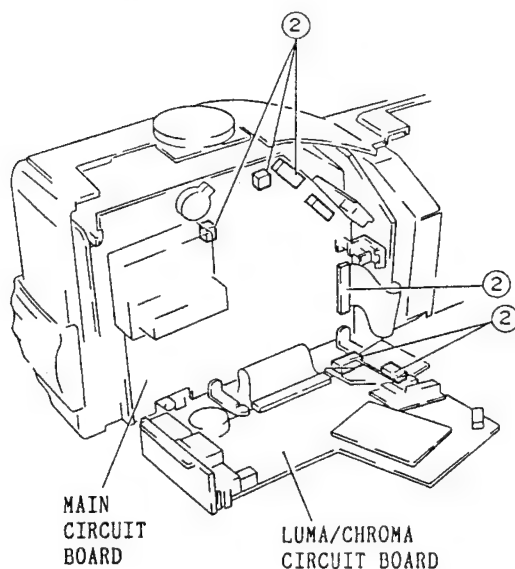

Fig. 2-24
2. Disconnect five (5) connector (CN004, CN006, CN007, CN010, CN013) and one (1) flat cable (CN008). (See Fig. 2-24)
2. Remove the process circuit board. (See Figs. 2-24, 2-25, 2-26)